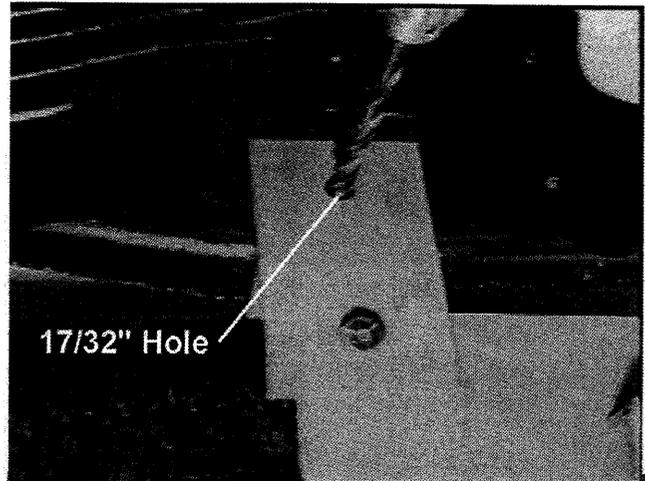
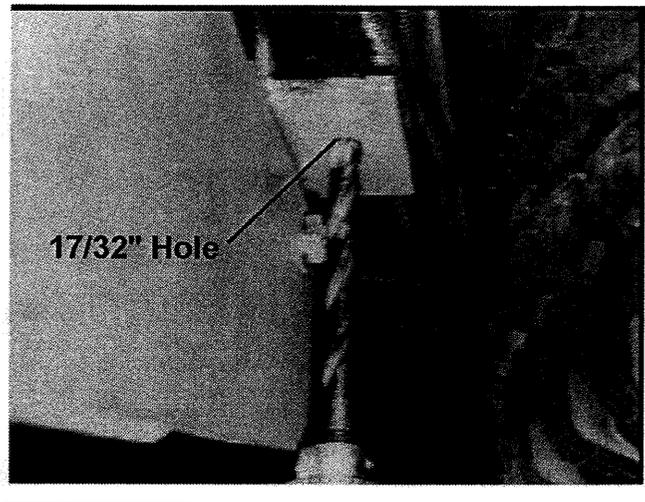

Figure 11
Figure 12
3. Using existing holes in front brackets as templates, drill two 17/32" holes per side (four total) in vehicle frame. Figure 11 shows drilling through the side of the vehicle frame. Figure 12 shows drilling through the bottom flange of the vehicle frame.